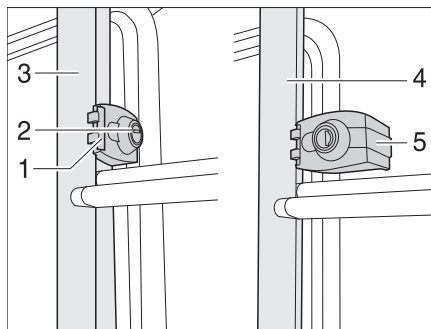

Fig. 1 Rear-ladder locking mechanism
- Insert the key into the locking cylinder (Fig. 1,2) of the rear-ladder locking mechanism (Fig. 1,1) and turn it a quarter turn until the key is vertical.
- Hold the part of the rear ladder that can fold (Fig. 1,4) and swivel out the safety catch (Fig. 1,5).
- Insert the key into the locking cylinder (Fig. 1,2) of the rear-ladder locking mechanism (Fig. 1,1).
- Swivel the safety catch (Fig. 1,5) inwards around the tube of the fixed part of the rear ladder (Fig. 1,3).